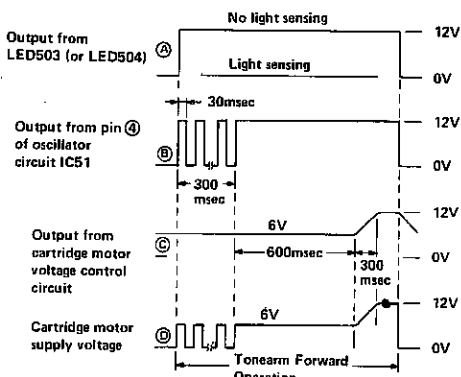

Figure 12-3
This circuit is composed of photo sensor LED503 for side A (or LED504 for side B), IC51, IC502, Q51, Q521, Q522, Q535 and Q537, and controls the cartridge forward operation when a record is playing. At the start of playing the side A of a record, the tonearm is kept slantwise the angle of which is detected by LED503 (now there is no light emission to the LED503), and the resultant signal ("high" level) is applied to pin ③ of IC502. Then the signal goes out of pin ① of IC502 and is fed to the oscillator circuit (IC51) and cartridge motor voltage control circuit (Q51, Q535 and Q537). The "high" level signal applied to the oscillator circuit goes out of pin ④, which is a pulse shown in Fig. 12-3 ③ to drive Q521, the output of which is reversed in polarity to be fed to the cartridge motor normal/reverse rotation selector circuit.
The "high" level signal applied to the cartridge motor voltage control circuit turns on Q537 and about 900 msec later (this time is decided by R599 and C509) it turns off Q51. Therefore as shown in Fig. 12-3 ©, a power of 12 V is fed to the voltage control circuit when Q51 is turned off while it is limited to 6 V by ZD51 when Q51 is turned on. In this way, the voltage to be fed to the cartridge motor is stabilized as shown in Fig. 12-3 ①, so that the motor rotation is quiet with no vibration and noise.